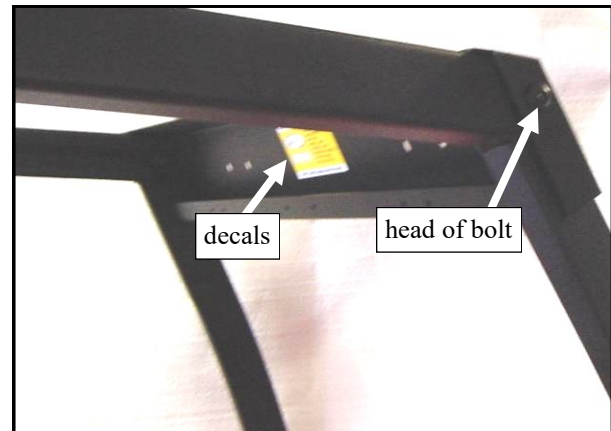

Fig. 3.1 (view from right side of tractor)
3.1 Per fig. 3.1 and with assistance, install the windshield support oriented so the decals are legible from the driver's seat. Use the following hardware to attach the support to each side frame: a 5/16 x 3/4" long hex flange bolt, plastic washer and flange locknuts. Tip: the black plastic washers can be difficult to distinguish from the black steel washers. Use a magnet or look for round witness marks left on the plastic washers from the mold ejector pins. The heads of the bolts are to be outboard as shown (locknuts inside the cab). Do not tighten the bolts. Repeat for left side frame attachment.